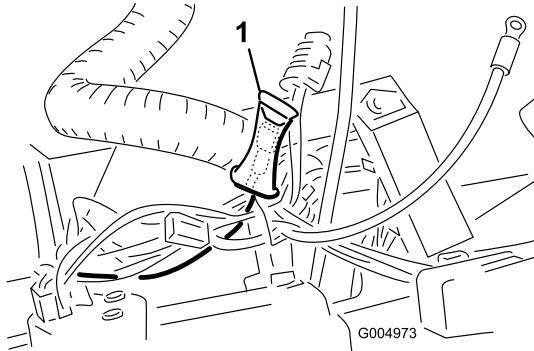

Figure 28
4. Inside the control panel, locate the pink wire with the connector enclosed in a plastic bubble (Figure 28). Carefully cut off the end of the plastic bubble and plug the appropriate wire connector into it. Close and latch the control panel cover.
5. Route the other end of the harness under the rear frame mount toward the left side of the machine while inserting the harness wire clips into the holes in the underside of the rear frame mount (Figure 28).